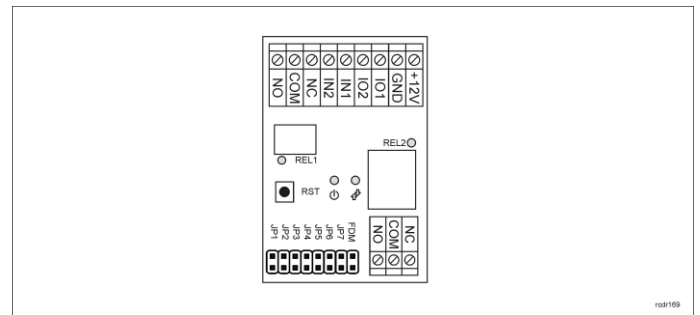
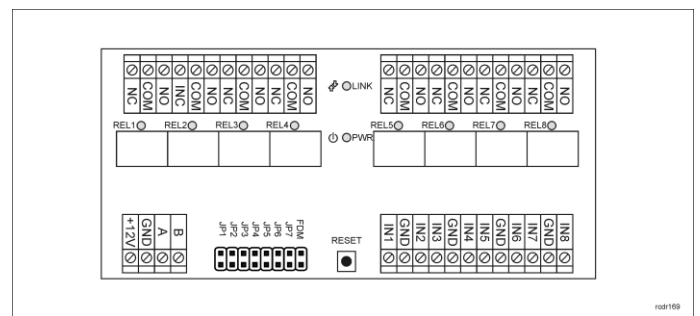

Fig. 3 MCX2 expander
Fig. 4 MCX8 expander
3. Within 2-3 seconds place jumper on JP7 contacts (fig. 3 or fig. 4) and LED PWR will pulsate quickly.
2. Place jumper on FDM contacts (fig. 3 or fig. 4).